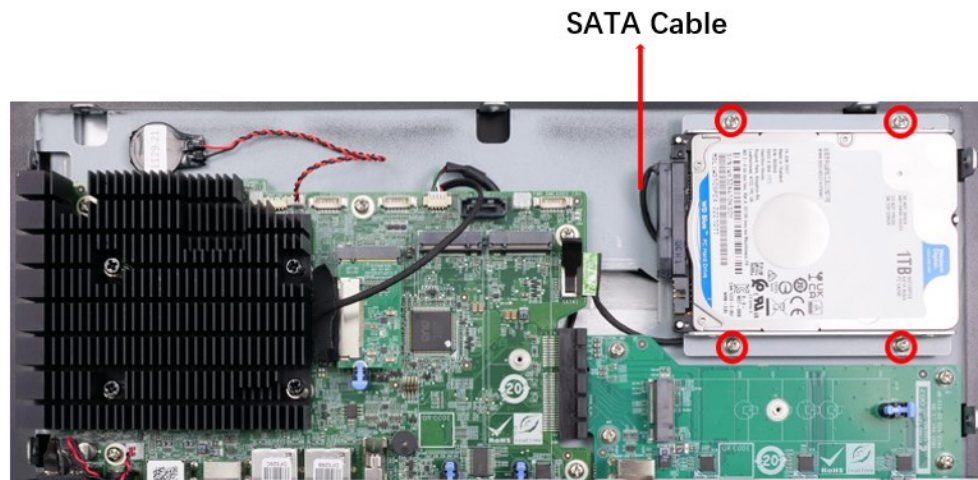

Figure 3-2: PPC2-Cxxx-EHL HDD Bracket Retention Screws
Step 2: Remove the HDD bracket from the PPC2-Cxxx-EHL Series. The HDD bracket is secured on the panel PC with four retention screws (**Figure 3-2**). Remove the four retention screws and disconnect the SATA and SATA power cables. Lift the bracket off the panel PC.